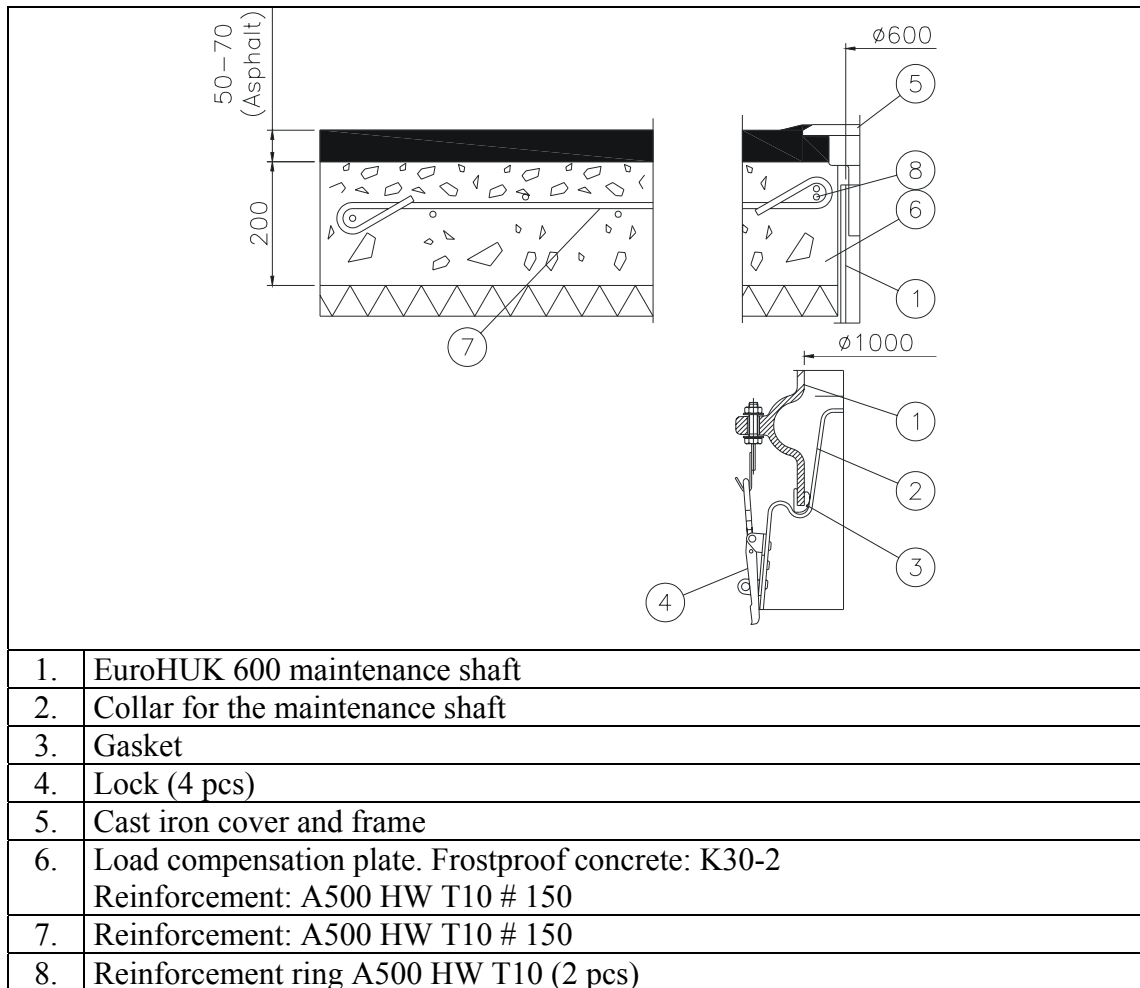

Figure 4. Construction of the traffic load compensation plate and the locking of the maintenance shaft EuroHUK onto the separator.
9. Install rubber gaskets onto the bottom edge of the maintenance shaft(s). Install the EuroHUK maintenance shafts in a vertical position into the installation frame of the separator. Lock the retaining latches (see figure 4).